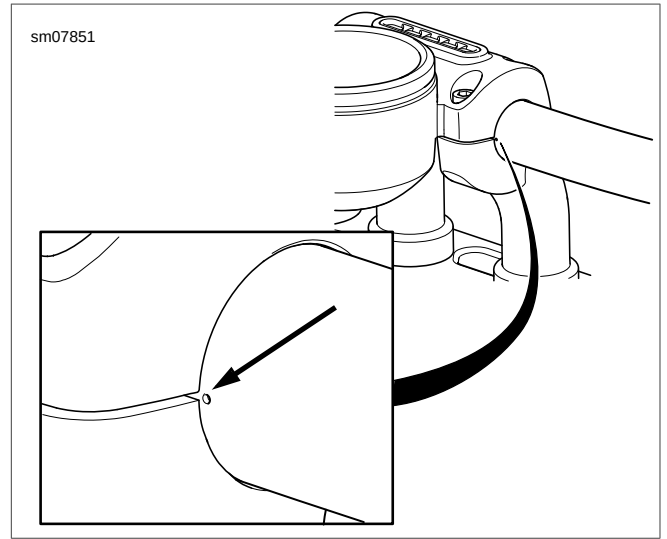

Figure 7-95. Alignment Marks
- Loosely install upper handlebar clamp (1) with fasteners (2).
- See Figure 7-95. Align marks with seam of clamps.